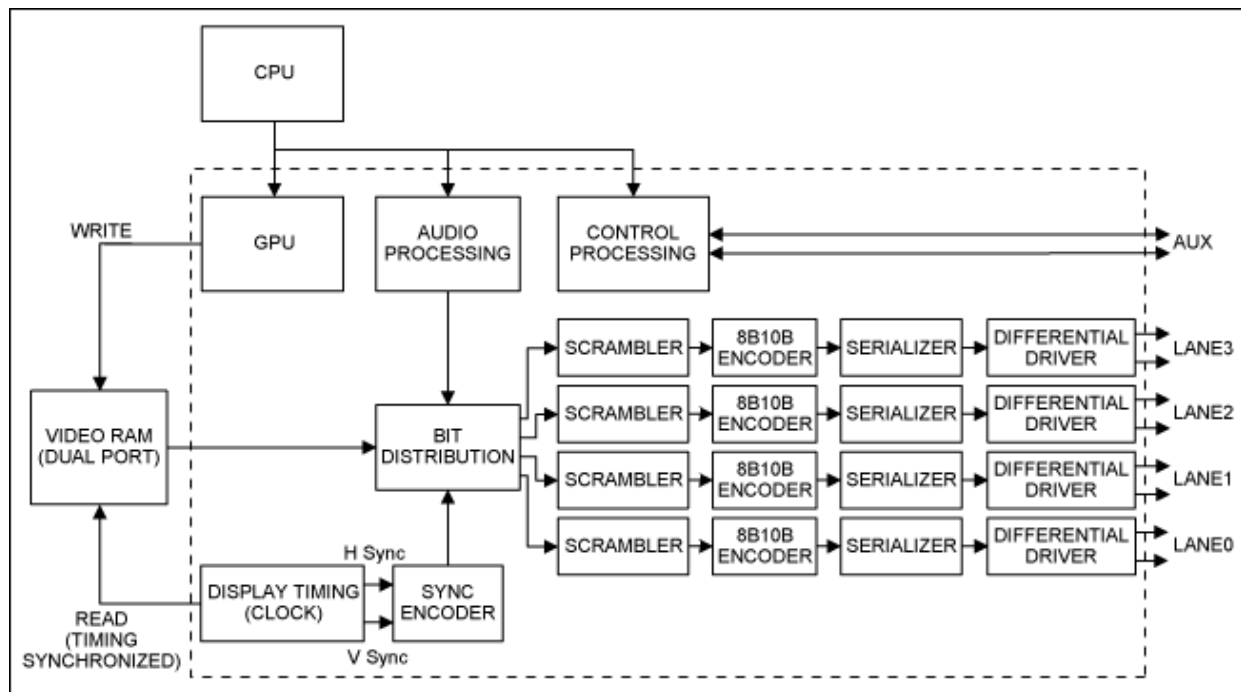

Figure 4. Functions of a DP-capable GPU.
**Figure 4** shows the functional block diagram of a DP architecture (dotted line) including the function of a GPU. This expanded GPU function has been integrated into most recent advanced CPU chipsets. The dedicated LVDS clock pair has been eliminated by using an embedded clock method. An 8B10B encoder is used instead of the TDMS encoder for lower EMI and enhanced embedded-clock recovery. A scrambler aids the clock recovery in case of idle signaling. Information bits are still coded in 8-bit format with the 8B10B encoder. The resolution is from 6 to 16 bits per color, which can be represented in either RGB or YCrCb format. The YCrCb is a digital version of YPrPb. Here, instead of dedicated channels for RGB signals, color information bits are distributed among four high-speed differential pairs according to their predefined maps.